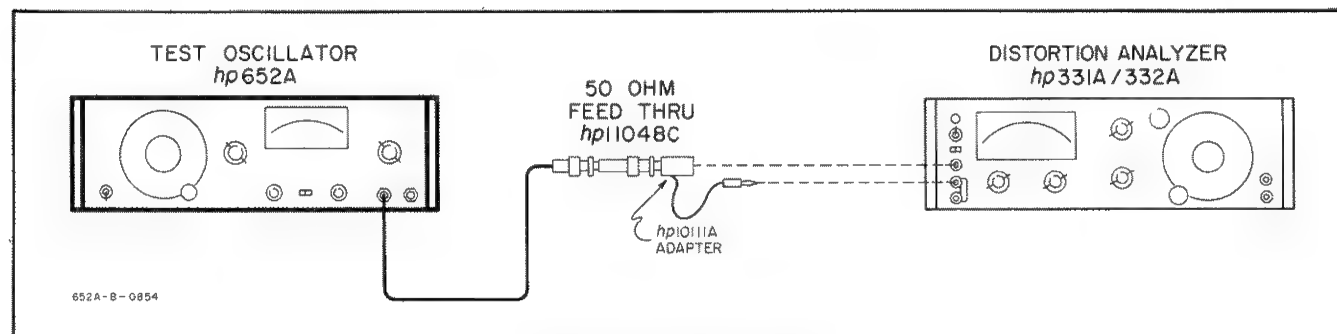

Figure 5-5. Distortion Test.
a. Connect distortion analyzer to 652A as shown in Figure 5-5.
a. Connect 652A to distortion analyzer as shown in Figure 5-5.